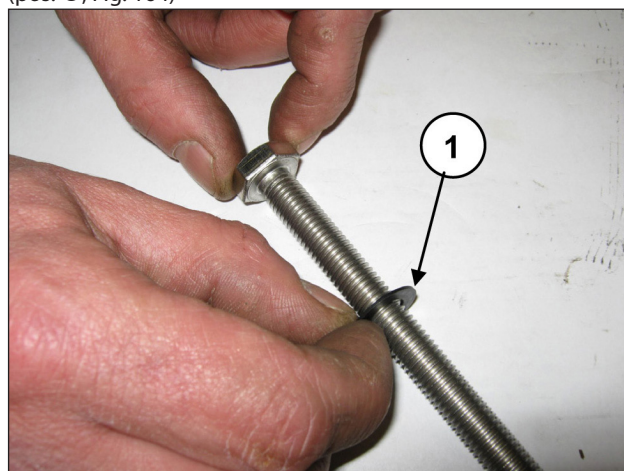

Fig. 164
Insert the Ø10x18x0.9 washer in the piston fixing screw (pos. ①, Fig. 164)